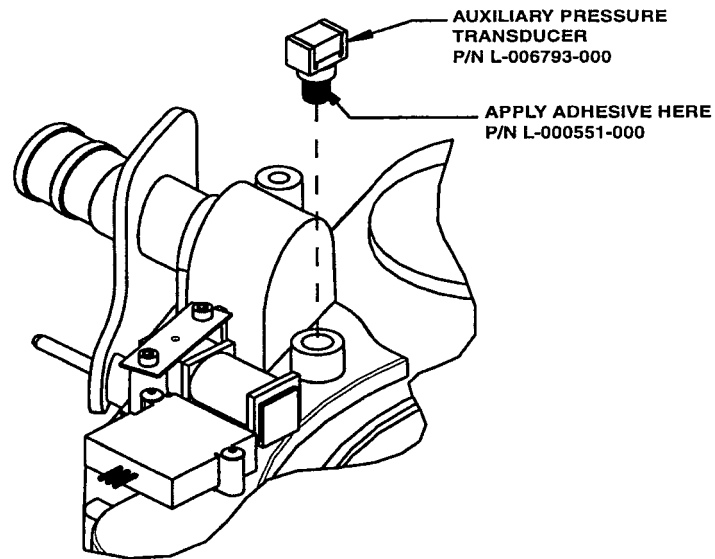

FIGURE 4-18.
3. Hold the body of the transducer and carefully screw the transducer into place (threaded manifold hole behind the patient air tube). See Figure 4-18. Avoid getting the wires tangled. Hand-tighten until snug.